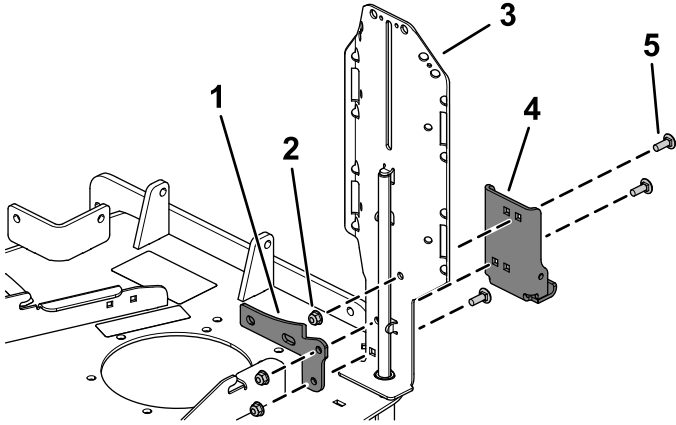

Figure 3
- Secure the bracket-support hinge and mount strap to the bucket-holder mount using 3 carriage bolts (5/16 x 7/8 inch) and 3 flange nuts (5/16 inch) as shown in Figure 3.